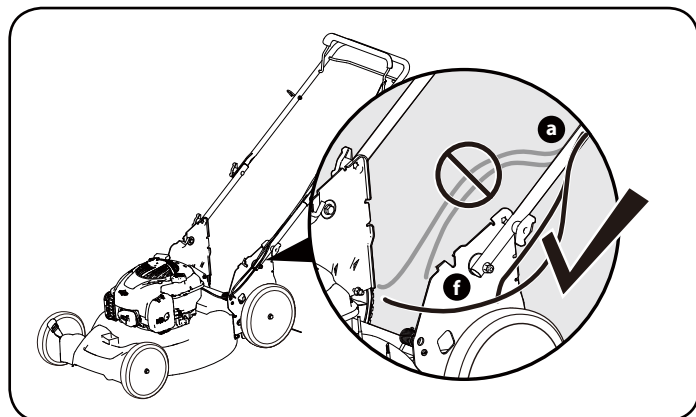

Figure 4
4. Ensure that the cables (f) are routed to the outside of the handle (a). (Figure 4)